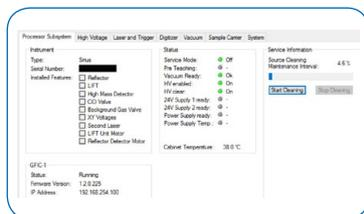

Figure 4.2 Processor Subsystem Tab
- The spectra window is now replaced by the „Details window”, with several tabs (see Figure 4.2)
- In the upper window, select the “Processor Subsystem” tab and click “Start Cleaning” to start the source cleaning procedure (see Figure 4.2)